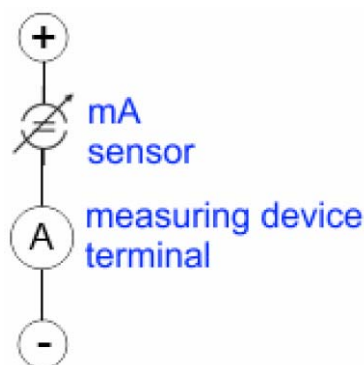

Figure 56: 2-wire connection
- 2-wire connection see ►Figure 56 on page 163, cf. IEC60381-1